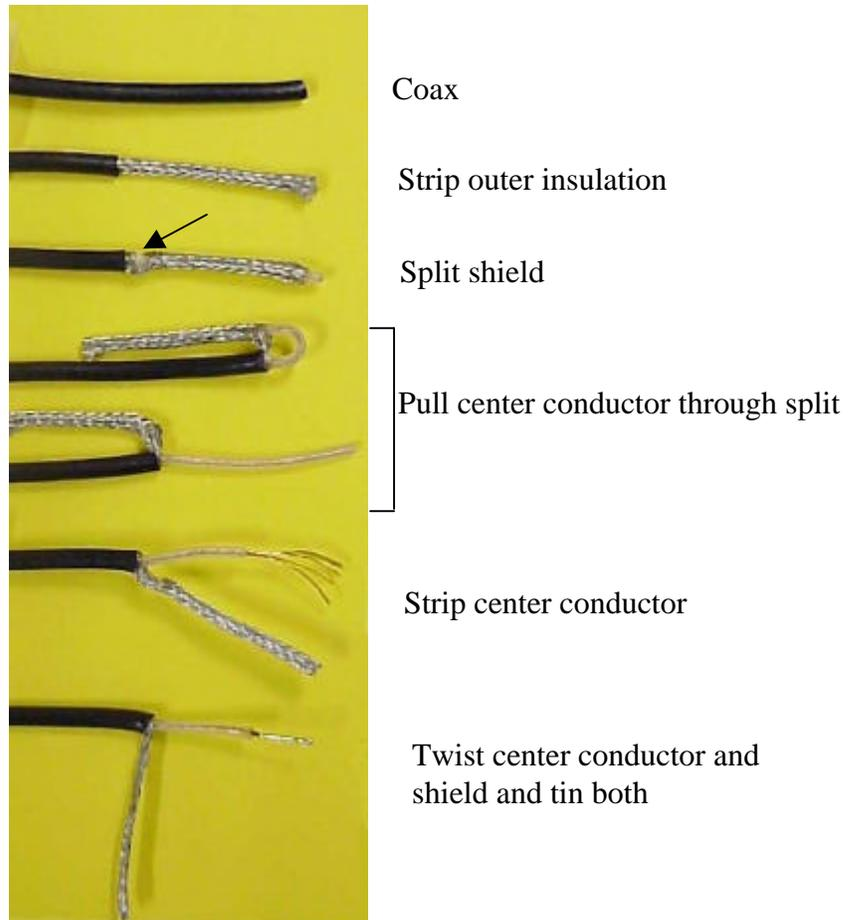

Figure 7. Coaxial cable preparation
2. Preparation Methods: (See Figure 7)